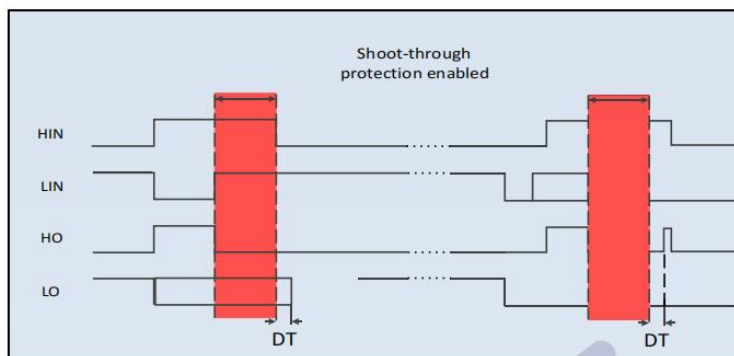

Figure. 3 Shoot-through prevention
The U5316CT(CQ) is equipped with shoot-through protection circuitry (also known as cross conduction prevention circuitry). Figure. 3 shows how this protection circuitry prevents both the high- and low-side switches from conducting at the same time. When the inputs controlling both high-side and low-side drivers are both logic HIGH, then both driver outputs are pulled down to logic LOW to shut down two power devices in the same bridge.